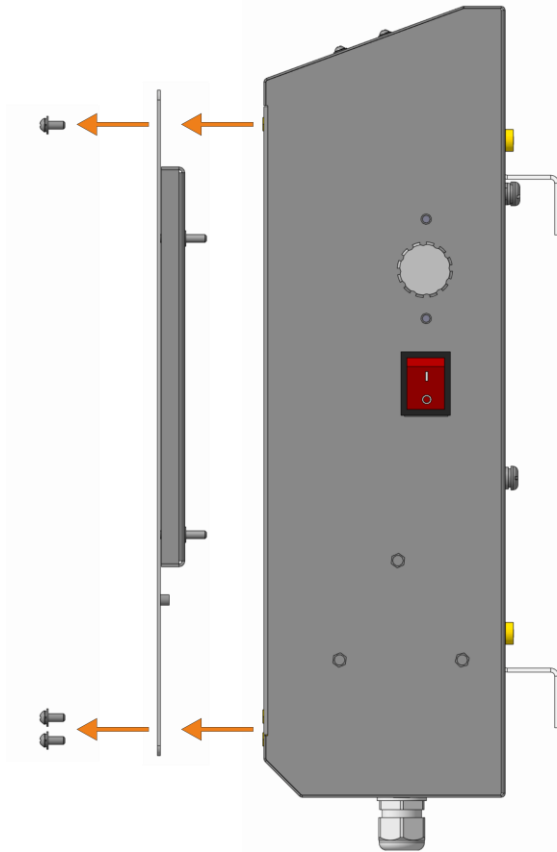
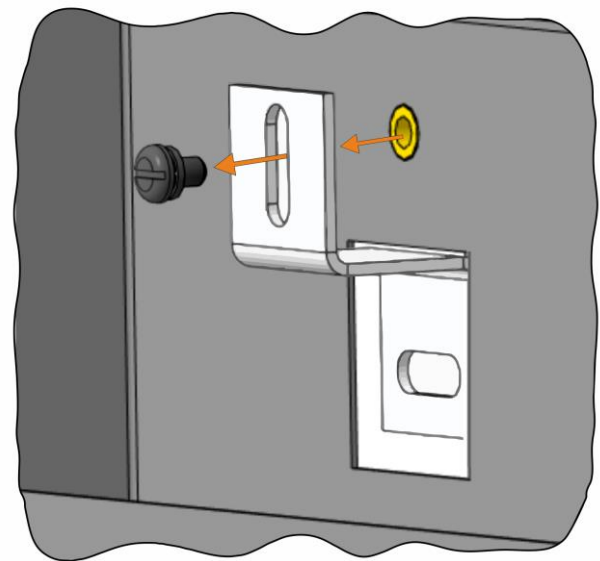

Figure 5 – Take off the front panel
Figure 6 – Unscrew mounting bracket
- 1) take off the front panel (see Figure 5), and unscrew four mounting brackets inside the casing on the rear side (see Figure 6);